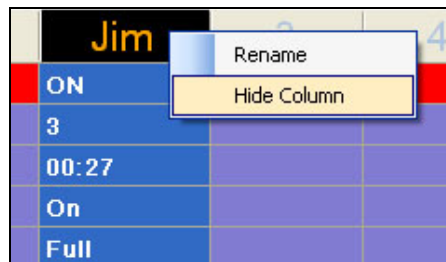

Figure 25: Hide Column option
3. Choose **Hide Column** (Figure 25).